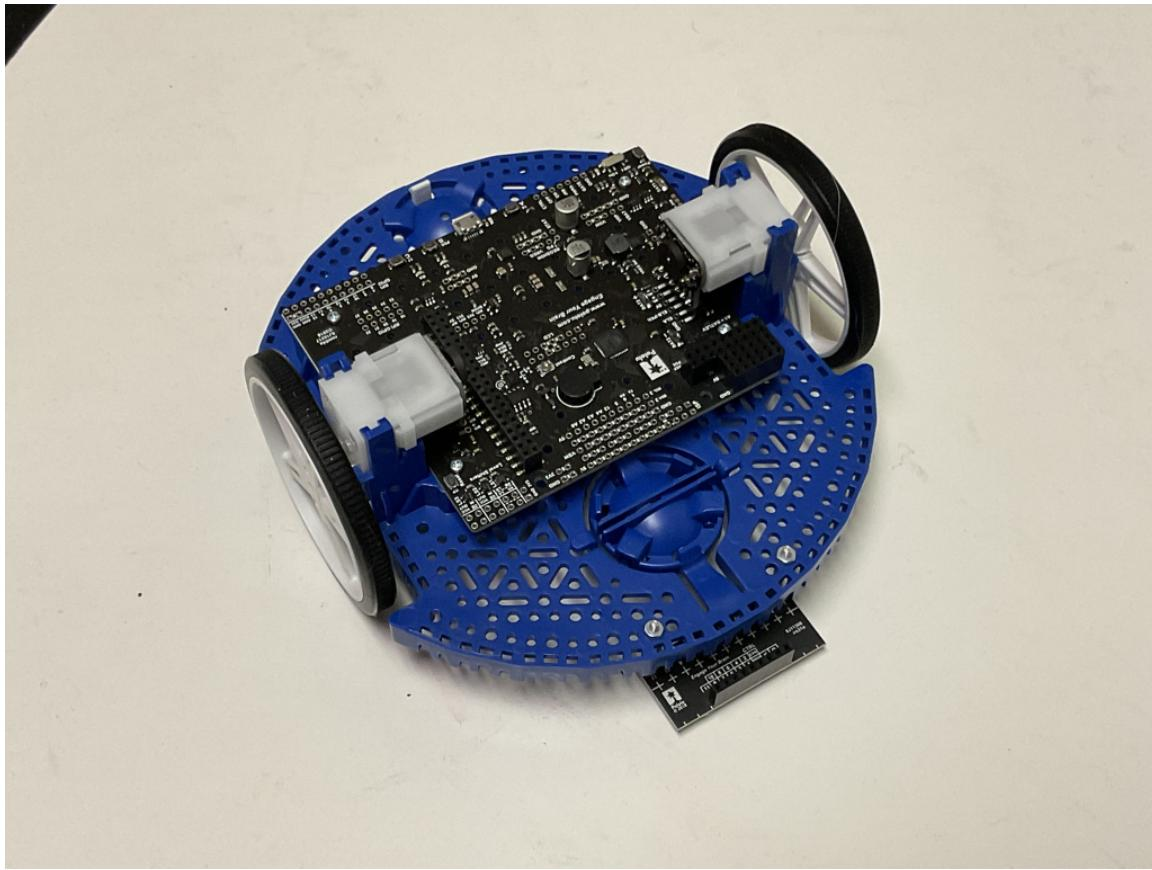

Figure 1: Romi base with line sensor attached.
2. **Add the line sensor.** Using (2) 3/4" standoffs, attach the line sensor to the front of the robot, as shown in Figure 1. You'll want use screws on the bottom and nuts on top so that the extra screw length doesn't drag on the ground.